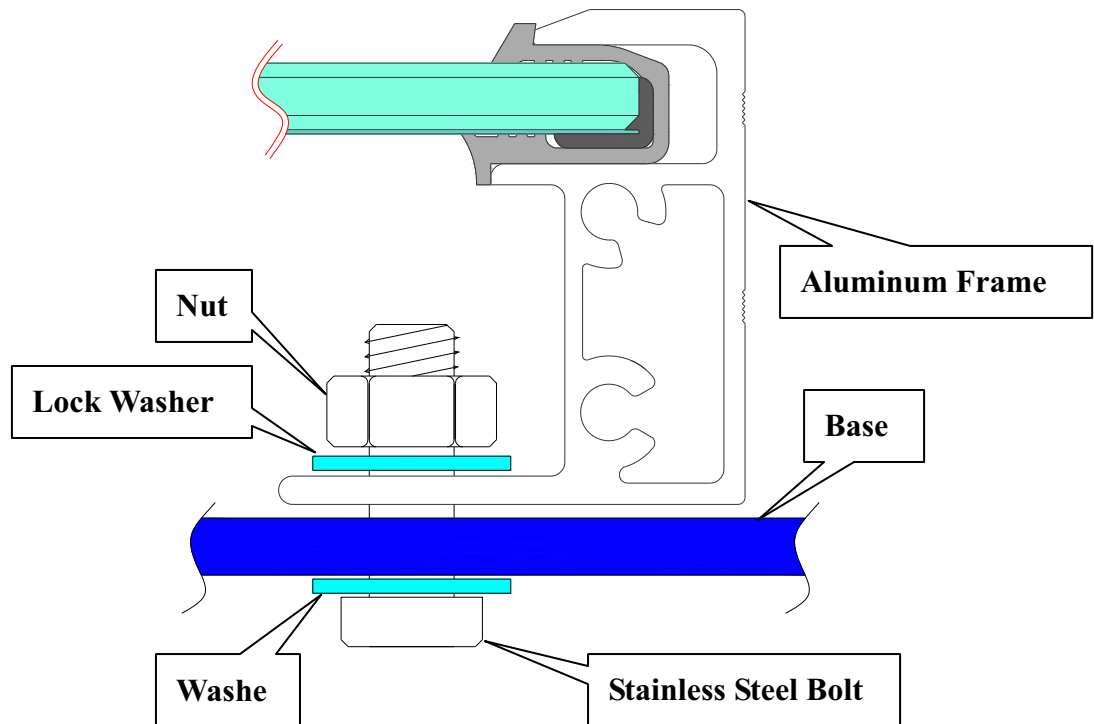

Figure4 : Fixing practice of “Case I”.
- There are two common fixing practices. Case I (Figure4) uses M6 stainless steel bolts, washers, lock washers and nuts. Case II (Figure5) uses clamp jigs offered by system installers, materials of clamp jigs are suggested to use aluminum alloys. In case clamp jigs are composed of other type metal materials, insulating material between frames and clamp jigs is required to prevent contact corrosion.